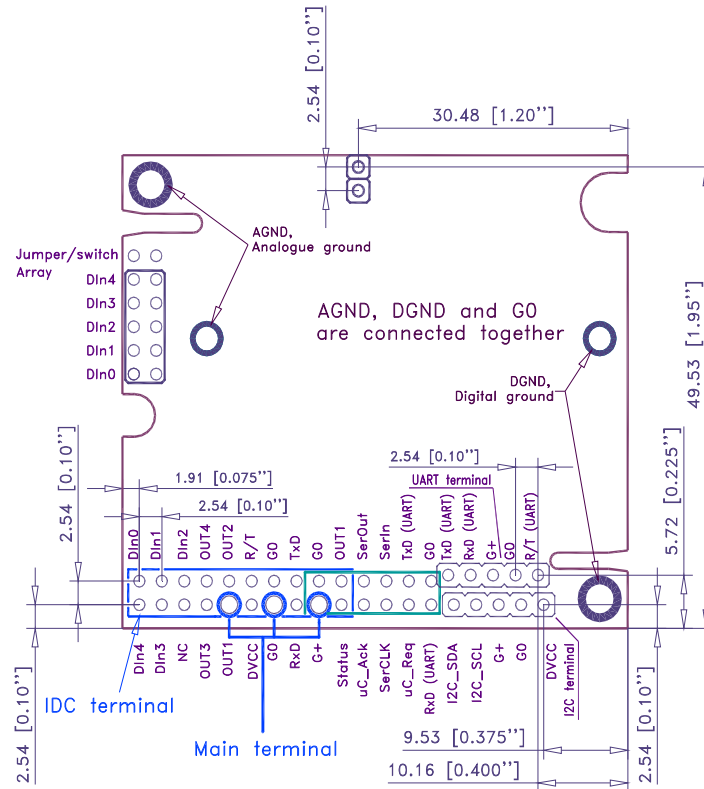

Figure 2. CO₂ Engine[®] K30 I/O notations, terminal positions and some important dimensions for mounting the K30 platform PCB into a host system (Top view).
The table below specifies what terminals and I/O options are available in the general **K30** platform (see also the layout picture Fig. 2). Please note, however, that in the **CO₂ Engine® K30** default configuration, only OUT1, OUT2, Din1, Din2 and Status have any pre-programmed functions. These are described in the chapter “Default Configuration”.
The modules are factory calibrated and ready for use directly after power up. There are several alternative ways to connect the **CO₂ Engine® K30** to a host system (see also figure 2):
- The two screw points in the upper left corner (having the IDC and edge connectors faced downwards, as in Figure 2) are connected to the *analogue* ground. They are the preferred choice for connection to some EMI shield, if so is required. This is normally necessary only if the application is such that large EMFs are foreseen. If this option is being used, precaution must be taken so as to exclude any power supply currents! Sensor reading instability is an indication of the need for shielding, or of improper enclosure system groundings.